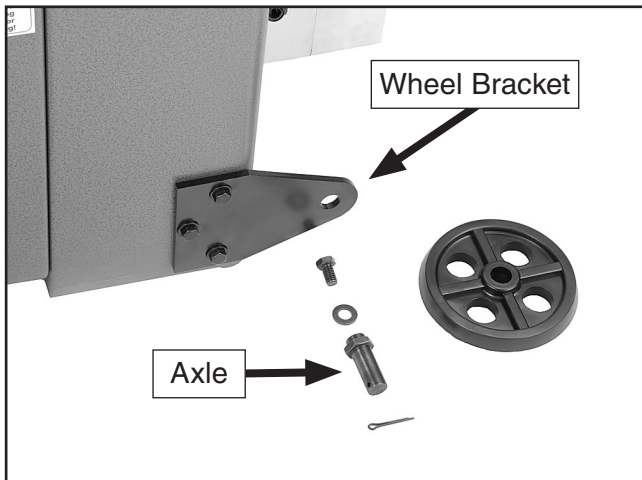

Figure 8. Installing wheel.
1. Align a wheel bracket with the frame mounting holes and secure with three $\frac{5}{16}$ -18 x $1\frac{1}{2}$ hex bolts, three hex nuts, and six flat washers, as shown in **Figure 8**.